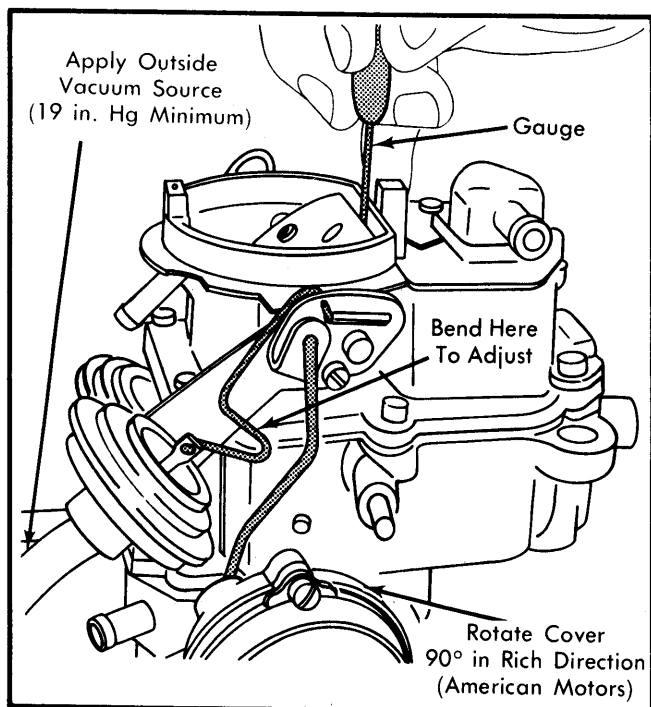

Fig. 8 Adjusting Choke Vacuum Break (Initial Choke Valve Clearance)
1) On American Motors models, remove choke coil cover retaining screws. Rotate choke coil cover 90° in "Rich" direction. Install and tighten 1 slot-type retaining screw. On all models, place fast idle speed screw on highest step of fast idle cam. See Fig. 8.